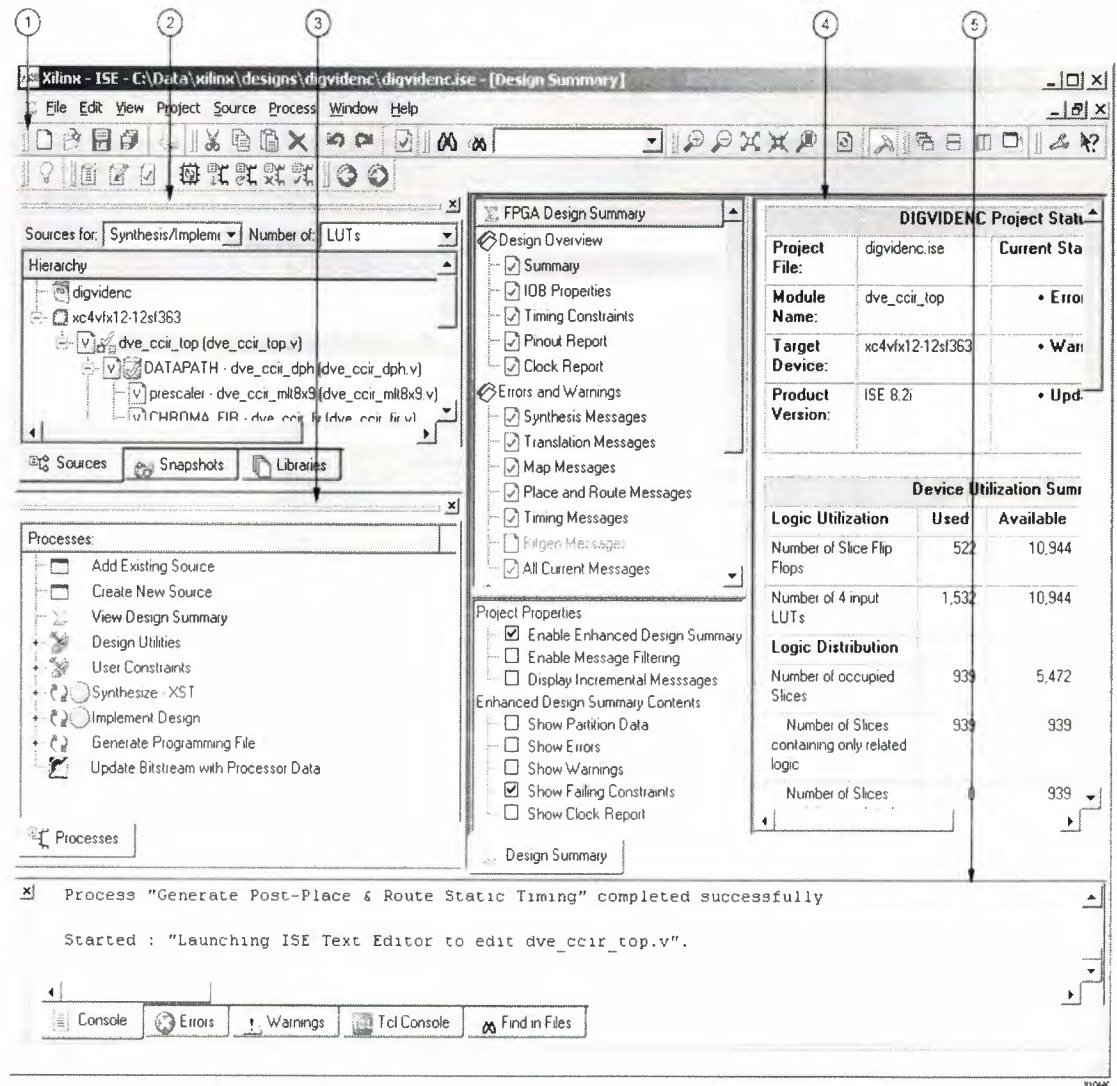

Figure 2.2.2 Project window
1. **Figure 2.2.2** project window